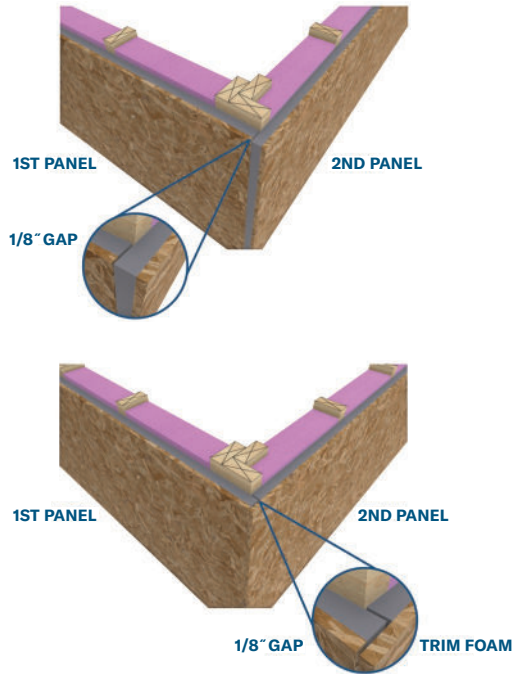

Figure 1: Installing LP NovaCore™ panels at outside corners.
- Place nails 3/8" from all panel edges except at outside corners the nails may be set back approximately 2" from the panel edge depending on the overlap detail used (see Figure 1).
- Outside corners (see Figure 1): Install the 1st panel to within an 1/8" of the edge of the corner end stud. Install the 2nd panel to overlap so that the edge of the 2nd panel is flush with the outer face of the OSB from the 1st panel. Alternatively, the foam of the 2nd panel may be trimmed and the 1st panel shifted to cover the foam of the 2nd panel (leave an 1/8" gap). Note that nails will be approximately 2" from the corner depending on the detail.